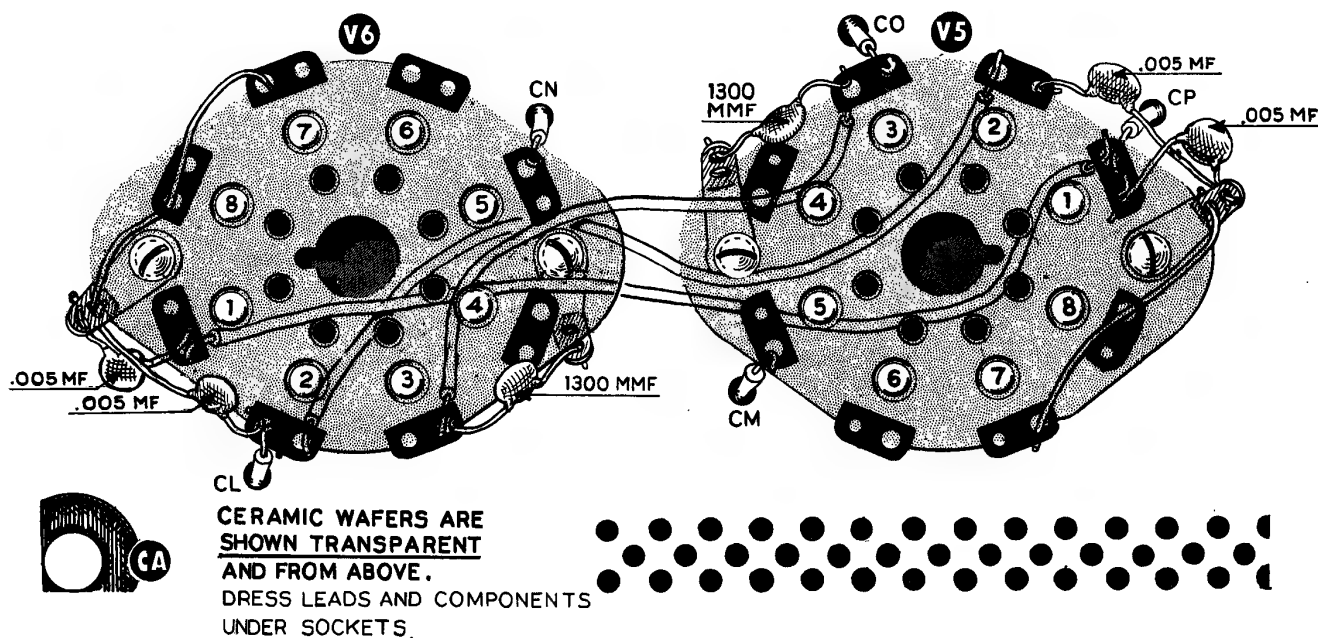

Figure 7
- (✓) Referring to Figure 7, connect one end of a short piece of #16 bare wire to V6-7 (NS) through V6-8 (NS) to the solder lug at CH adjacent to V6-1 (NS). Now solder V6-7 (S1) and V6-8 (S1).
- (✓) Connect a .005 mf disc capacitor between V6-1 (NS) and the near solder lug.